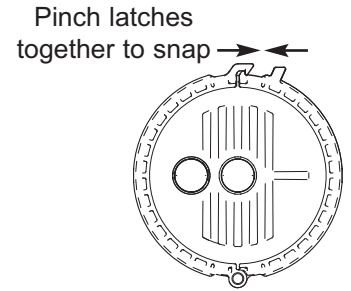

FIG. 15
9. Slide the lid assembly down over the replacement cartridge’s ports until it sits flat on top of the sump, then lock the clamp onto the sump by pinching together the latches, as shown in Fig. 15, until they snap. The clamp will not snap unless the cartridge and sump are properly seated and aligned.